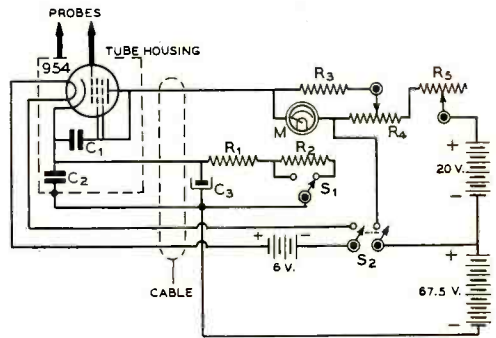

Figure 4.
Figure 4. Two types of mercury "verticals." (A) Only top section is variable. (B) Top and center sections are both variable making a "five and ten" or "ten and twenty" antenna. Central section also acts as a switch to connect top section.
The circuit shown in figure 4, which is taken from RCA Application Note no. 47, provides a v.t.v.m. usable on frequencies up to 50 Mc. The input capacitance is only 1.4  $\mu\text{fd}$ . The meter may also be used on audio, low-frequency a.c. and d.c., of course. The tube
Now notice figure 4. This shows a plane flying the beam. The pilot is not sure of his
Figure 4. Diagram showing the necessity for having a marker transmitter for indicating to the plane when it has passed over the beam transmitting station so that the pilot may reverse his sense in regard to the A and N sides of the course.